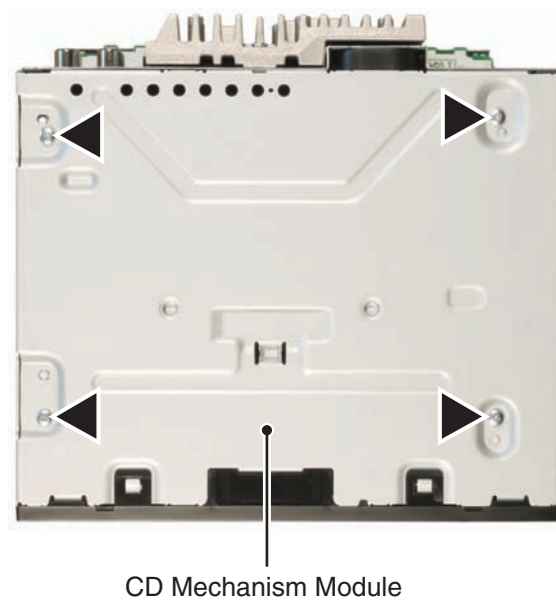

Fig.4
● Attention of removing (Fig.4)
5. Lift the PU unit to disengage it from Part B of the chassis (Fig 4), and remove the PU unit.
(Cautions) When re-installing the PU, be sure to first nip the chassis and the PU unit (Fig 4) at the position B.